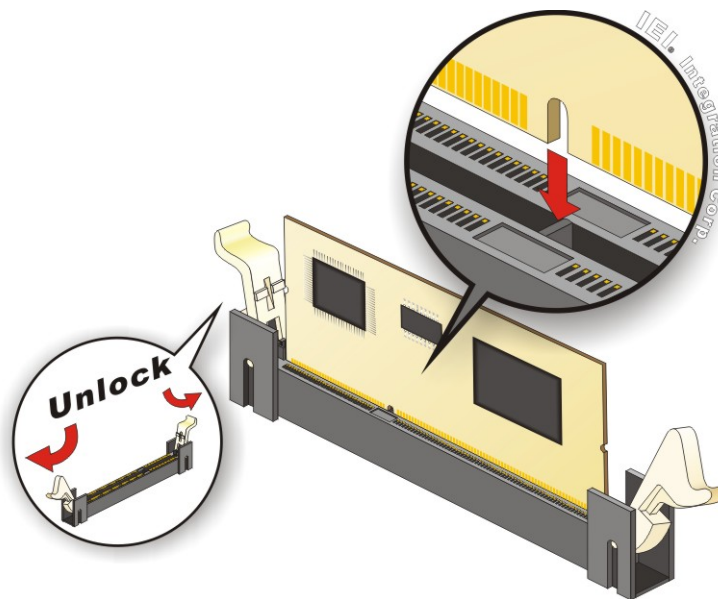

Figure 4-7: iRIS Module Installation
To install the iRIS-2400 module, please follow the steps below and refer to **Figure 4-7**.
Step 2: **Open the socket handles.** Open the two handles outwards as far as they can. See **Figure 4-7**.
Step 3: **Align the iRIS-2400 module with the socket.** Align the iRIS-2400 module so the notch on the module lines up with the notch on the socket. See **Figure 4-7**.
- Step 4:** Insert the iRIS-2400 module. Once aligned, press down until the iRIS-2400 module is properly seated. Clip the two handles into place. See **Figure 4-7**.